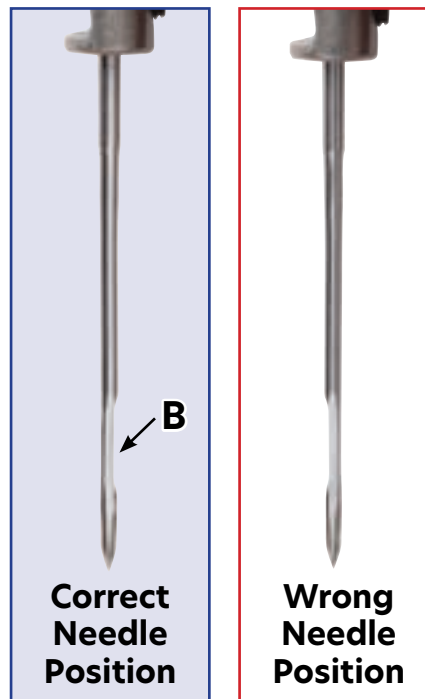

Figure 32
- 2) Be sure the new needle is positioned correctly with the Scarf (**B**) facing to the right. **Please note:** You should be able to see the needle in the two round openings of the needle bar. (**Figures 32 & 33**)